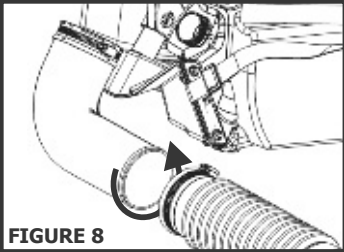
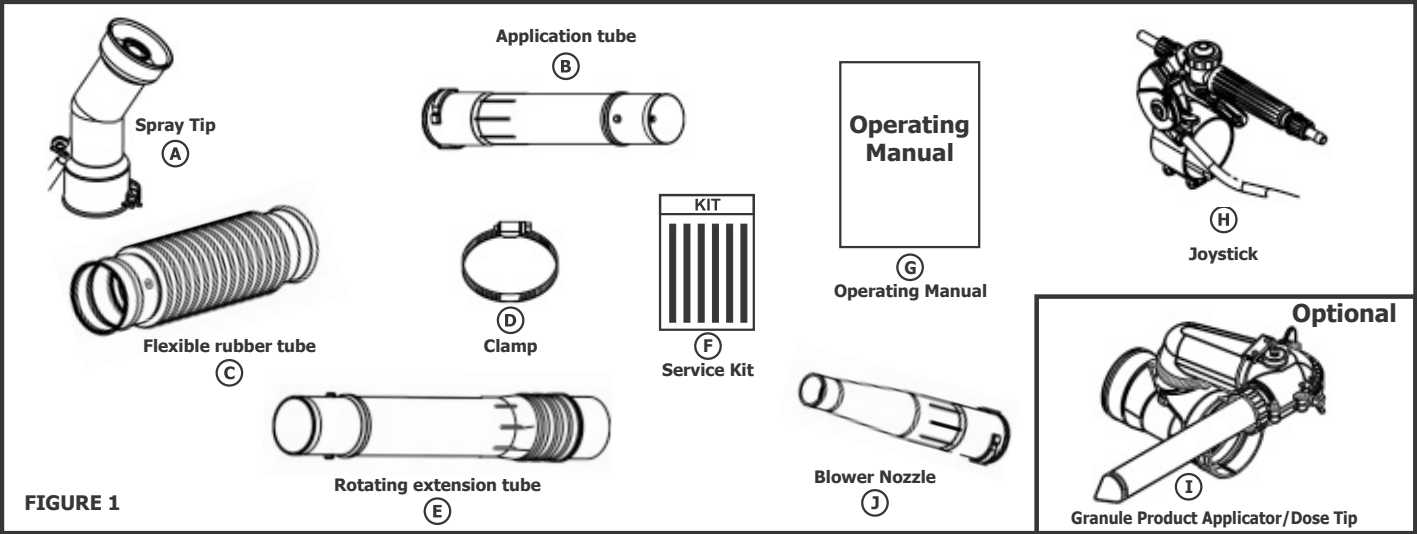

FIGURE 8
FIGURE 1
Release the screws on the clamps (Figure 1 – item D), releasing the engine air outlet curve and the tube (Figure 1 – item C), as shown in Figure 8.
Then, attach the dose tip outlet (FIGURE 1 –item I) to the rubber tube (FIGURE 1 –item C) and to the engine air outlet curve, to the rotating extension tube (FIGURE 1 - E) and the respective application tube (FIGURE 1 –item B).
**Never use the blower nozzle (Figure 1 – item J) when using the powder /granulated product application dose tip.**
Remove the liquid spray nozzle (A - Figure 1) and the respective hose and store them safely. Replace it with the Blower Nozzle (J), attaching it to the application tube (B) turning it slightly to the right, until a “click” is heard, indicating a proper fit, as shown in Figure 5.